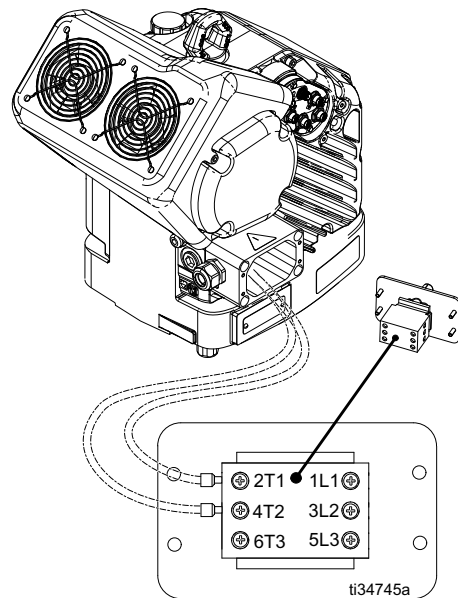

FIG. 4: Terminal Connections
3. With the power disconnect switch (D) and the junction box cover (DA) detached from the driver, verify that the wires inside the junction box are installed as seen in FIG. 4.
5. Install power wires into terminals 1L1 and 3L2. See FIG. 4.